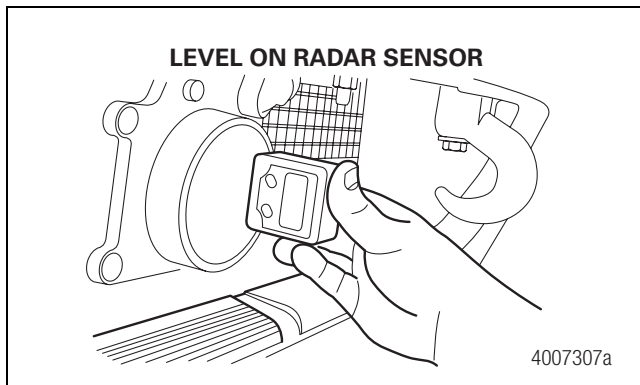

Figure 2.28
- Position the digital level on the outside metal edge of the radar sensor surface. Figure 2.28. Adjust the vertical alignment screw until the digital level reads 90.0 ± 0.1 degrees.